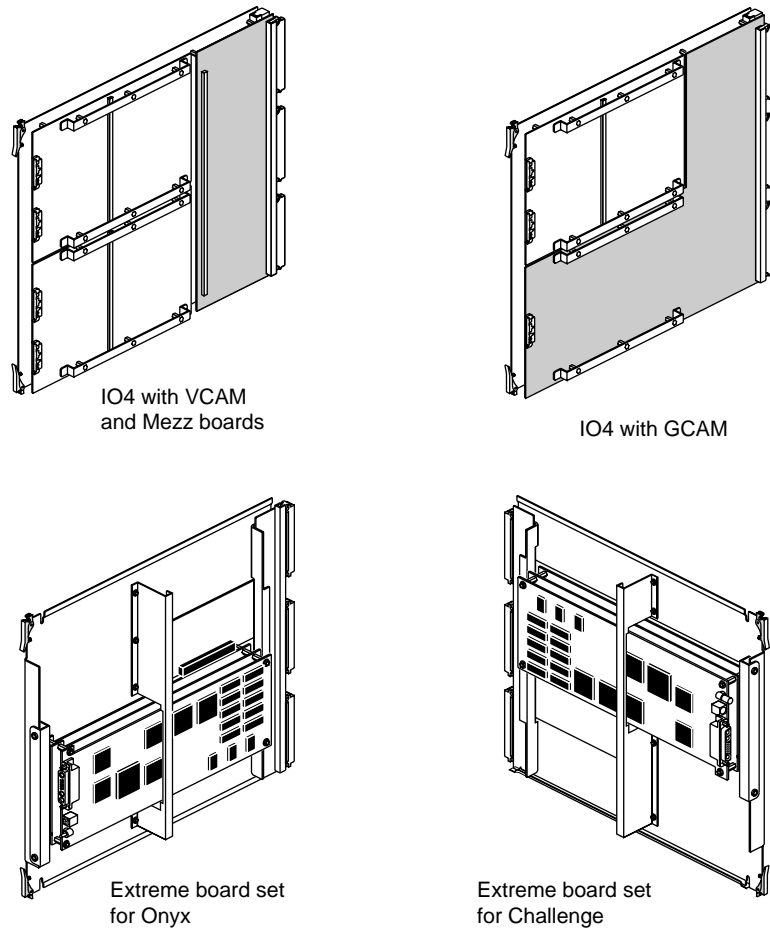

Figure 1-1 CHALLENGE and Onyx Versions of the Extreme Graphics Hardware Option
- Figure 1-1** CHALLENGE and Onyx Versions of the Extreme Graphics Hardware Option1-2
Both versions of the Extreme graphics option consist of a Graphics Channel Adapter Module (GCAM)-equipped IO4 board (instead of a VCAM-equipped primary IO4) and the Extreme Graphics board set (see Figure 1-1).